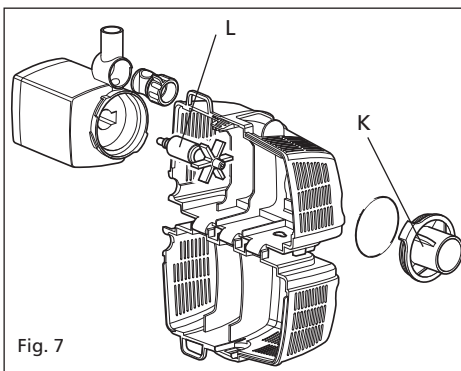

Fig. 7
2. Release the Pump Chamber, Fig 7 (K), by rotating it until the two retaining tongues are clear of the lugs on the Motor Body.
4. Pull the Rotor Assembly out of the Motor Body. See Fig 7 (L).